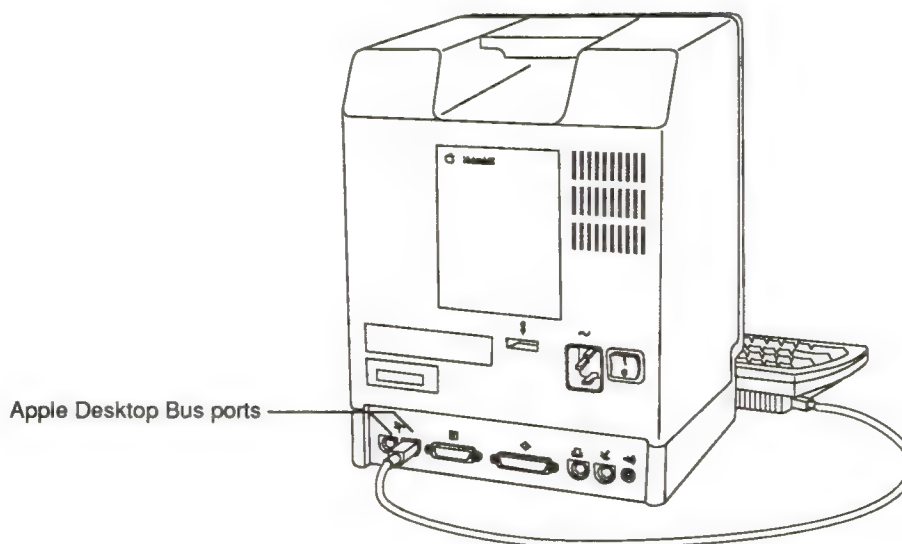

Figure 7. Connecting the keyboard cable to the computer
4. Plug the other end of the keyboard cable into either one of the two ADB ports on the back of the Macintosh SE, as shown in Figure 7.